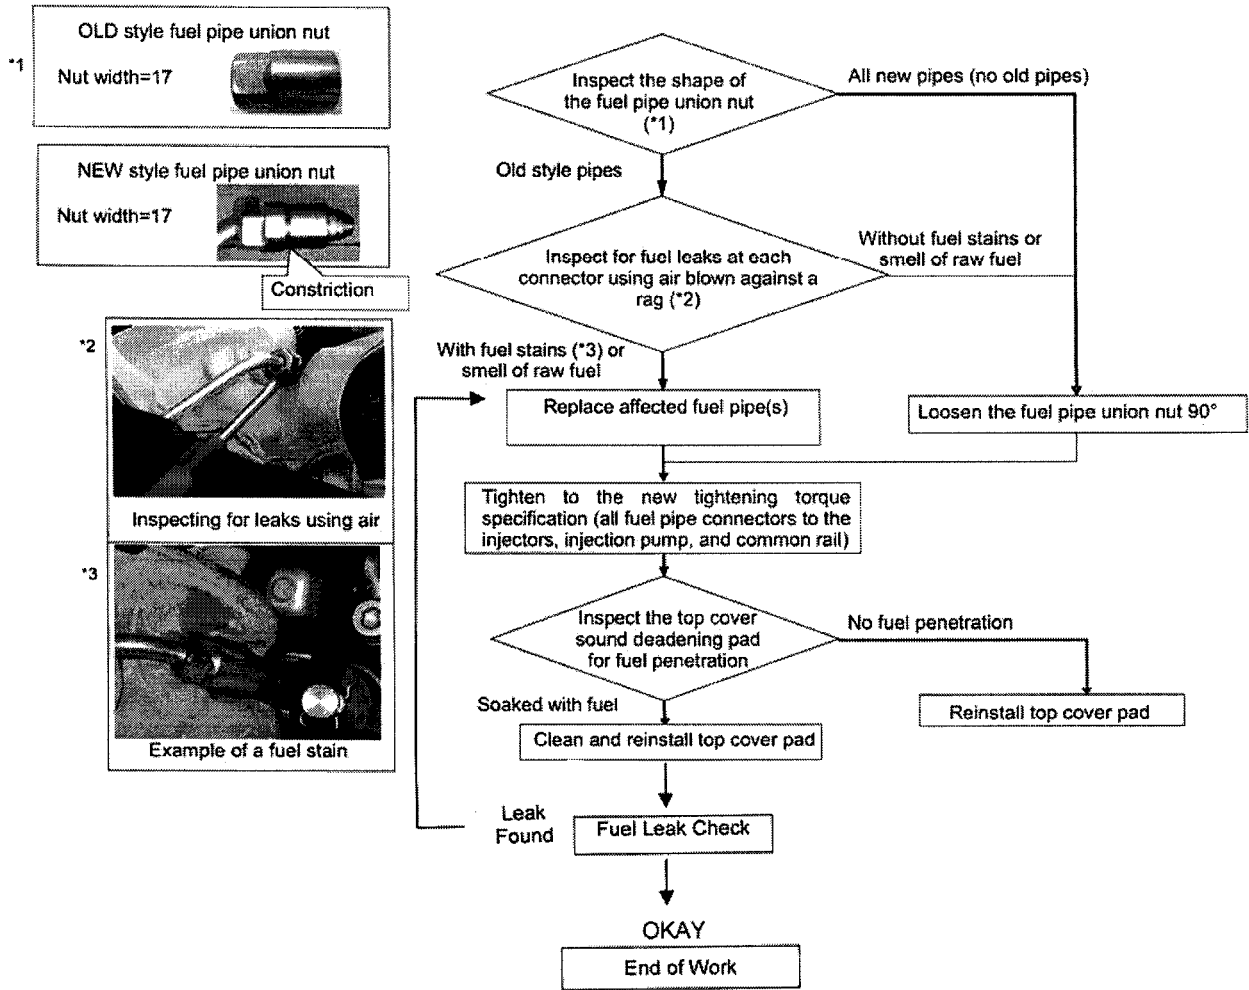

Figure 3 Repair Process Flow chart
(3) Follow the flow chart below to determine if any parts need to be replaced. (Fig. 3)